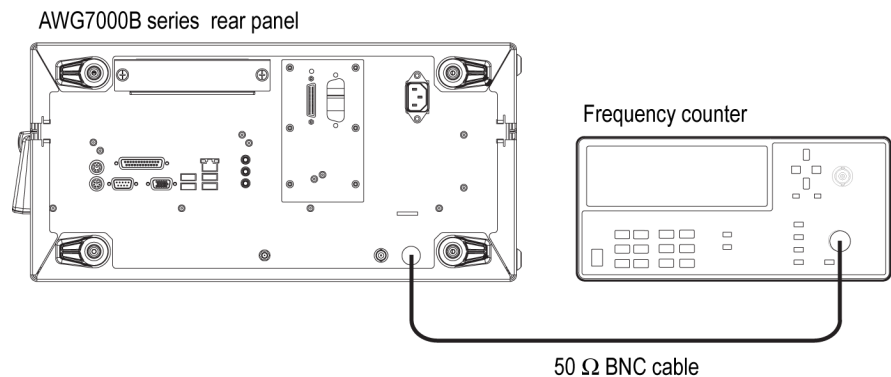

Figure 3: 10 MHz Reference calibration initial test hookup
- a. Connect a BNC cable from the 10 MHz Reference Output on the rear panel of the arbitrary waveform generator to the CHANNEL 1 of the frequency counter. (See Figure 3.)